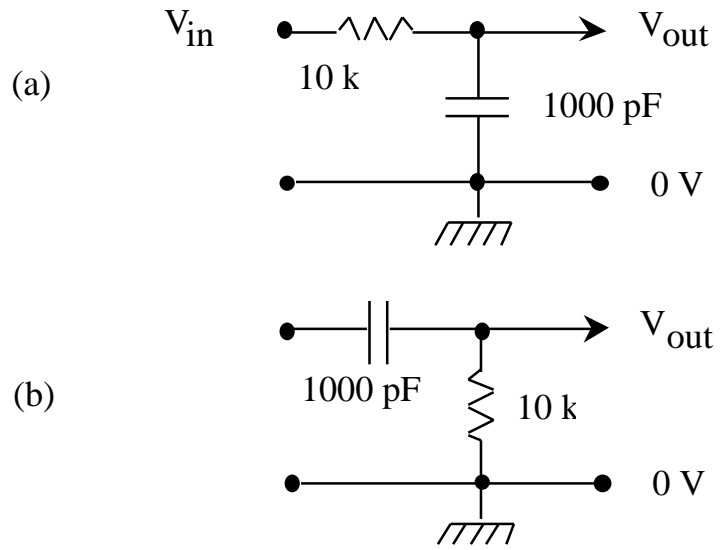

Figure 3.1
1. Calculate the cut-off frequency f_c for the low-pass filter in Figure 3.1 (a). Draw a Bode diagram (log-log plot of Transfer function T vs. f) of the frequency response, sketching in the correct form near the half power point. Calculate the integrating time constant t_R . Draw the output waveform where the input is a low-frequency square wave.
2. Calculate the cut-off frequency for the high-pass filter in Figure 3.1 (b) and draw its Bode diagram. Calculate the differentiating time constant t_D and draw the output waveform for input square waves.